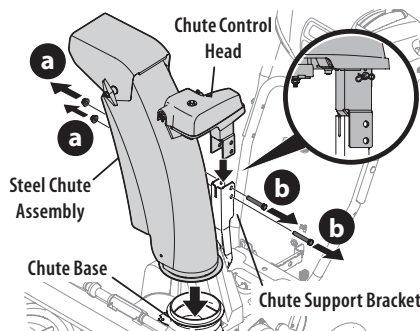

Figure 21
1. Remove lock nuts (a) and hex screws (b) from chute support bracket (this will require two wrenches) (Figure 21).
2. Place steel chute assembly onto chute base and chute control head onto chute support bracket (Figure 21).